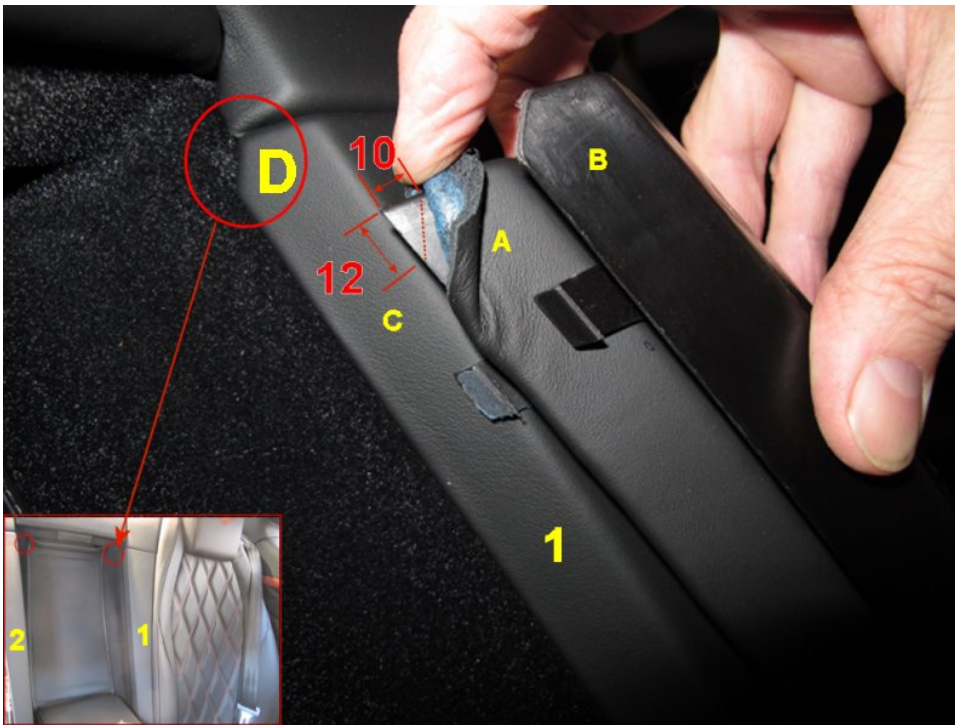

Figure 2
- Unclip and remove the two rear centre armrest side trims, 1 and 2 figure 2
2. With the two rear armrest side trims removed the substrate of each part has to be modified as shown in Figure 2
3. Figure 2 shows the modified side trim (1) refitted after the corner (D) has been removed and retrimmed. The two other examples in Figure 2 show each stage of the modification.